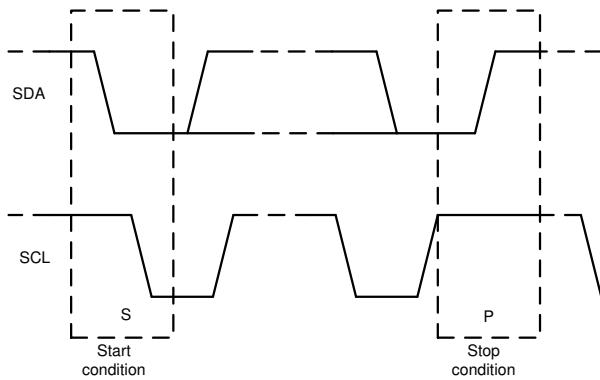

图 7-16. Start and Stop Conditions
1. The controller initiates data transfer by generating a start condition. The start condition is when a high-to-low transition occurs on the SDA line while SCL is high, as shown in 图 7-16. All I²C-compatible devices recognize a start condition.
4. To signal the end of the data transfer, the controller generates a stop condition by pulling the SDA line from low-to-high while the SCL line is high, as shown in 图 7-16. This action releases the bus and stops the communication link with the addressed target. All I²C-compatible devices recognize the stop condition. Upon receipt of a stop condition, the bus is released, and all target devices then wait for a start condition followed by a matching address.